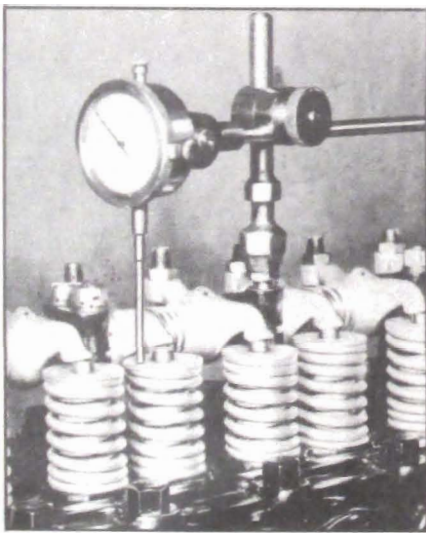

Figure 2-26—Dial Indicator Set to Check Valve Timing
2. Mount dial indicator to bear against the valve spring cap of the fully closed exhaust valve and set indicator at zero. See figure 2-26.